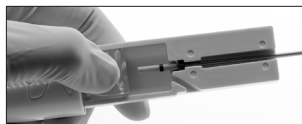

Figure 7
- d. Retract the spring-loaded funnel cartridge, and place the EDC housing in the loading groove, sliding the proximal end up to the housing stop (see Figure 7). Verify that the handle actuator of the EDC is fully retracted.